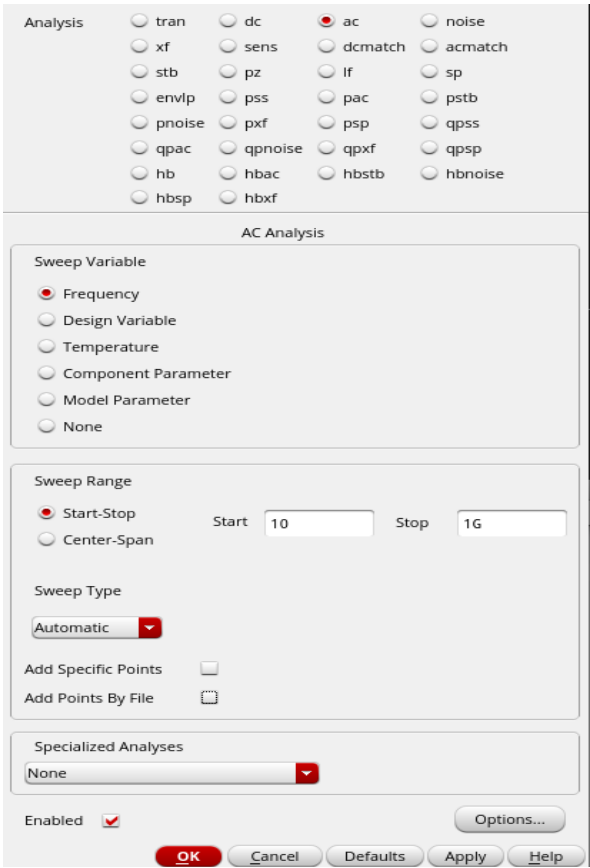

Fig.9 AC simulation Configuration
12. Enter the value of R_1 you get, and run the simulation again to verify the correct gain. This can be done by opening the “AC Analysis”, tick “Frequency” in the option bar “Sweep Variable”, and enter the start-stop frequency range, as shown in Fig.9, and repeat the simulation.